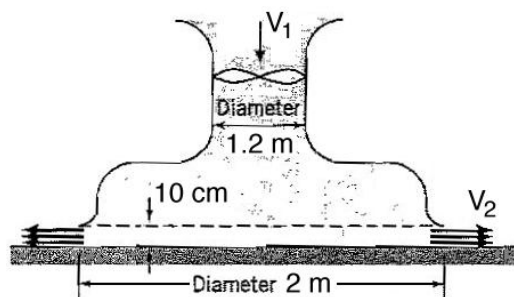

Figure P3.5:
3.5 In the hovercraft shown in Figure P3.5, air enters through a 1.2 m diameter fan at a rate of $135\text{ m}^3/\text{s}$. It leaves through a circular exit, 2 m diameter and 10 cm high. Find the average velocity at the entry and the exit.